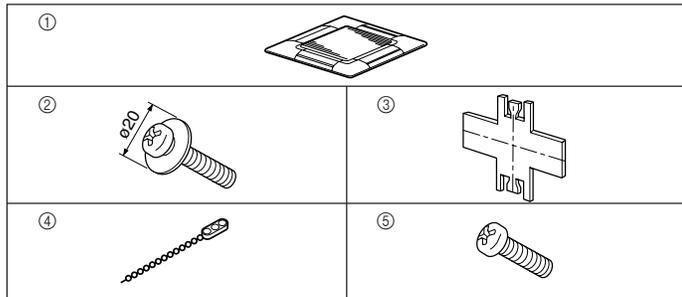

Fig. 8-1
8.1. Checking the contents (Fig. 8-1)